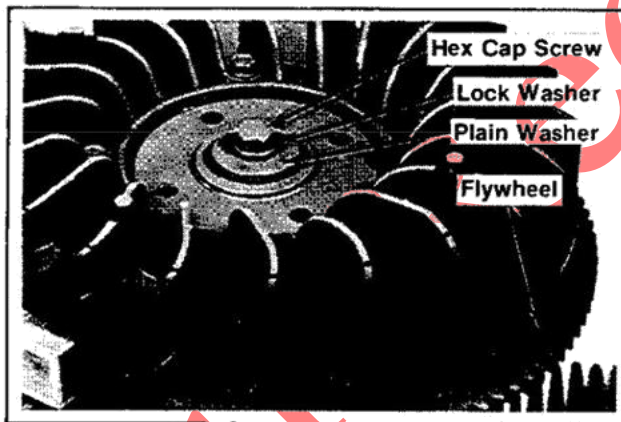

Figure 11-38. Installing Flywheel Fastener.
2. Place the flywheel on crankshaft and install plain washer, split lock washer, and hex cap screw (lubricate threads with oil). Refer to Figure 11-38.